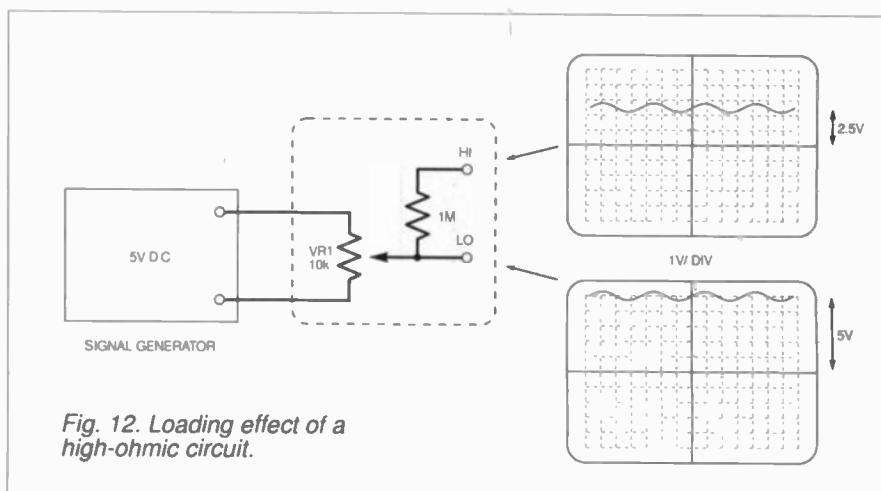

Fig. 12. Loading effect of a high-ohmic circuit.
The 5V d.c. power supply source in Fig. 12 is varied by VR1, a 10 kilohm (10k) potentiometer. If the scope input is taken from the low-ohmic (LO) output, the wiper of the potentiometer, the screen deflection is five divisions. However, the high-ohmic (HI) output via the one megohm (1M) source resistor gives a half voltage reading (2.5 divisions) because the source impedance is effectively the same as the scope input impedance (usually 1M). The voltage at the scope input is calculated as: